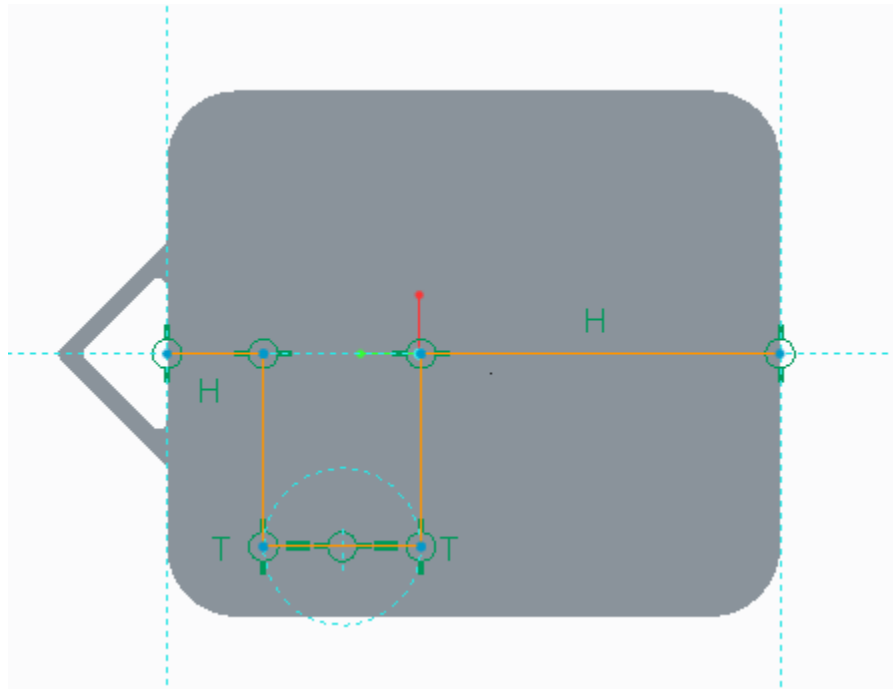

Figure 8: Sketch for Offset-type cross-section.
3. Choose the appropriate type and finish the definition of the section (for ex. in Figure 8, an *Offset* cross-section is defined).